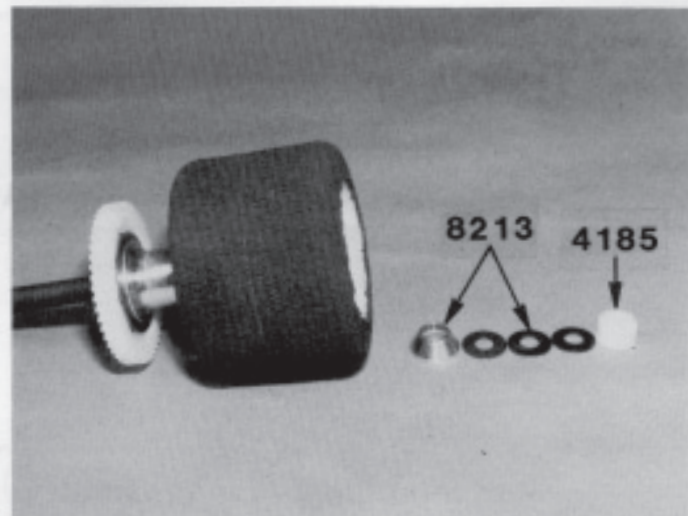

Fig. 66
□ **Figs. 66 & 67** You can now slide the #3625 wheel with bearing over the axle making sure that the bearing goes onto the smooth part of the axle just past the threads. In bag #8 you will find the #8213 diff thrust cone parts and the #4185 8-32 nylon locknut. The diff thrust cone assembly consists of a tapered aluminum cone and three belleville (cone shaped) washers. Install the #8213 diff thrust cone so that the small tapered end goes on first. Now install the three belleville washers, making sure that the raised center is facing out on each one. All three washers will fit inside the lip of the diff thrust cone. Now thread on the #4185 8-32 nylon locknut and tighten it by hand.